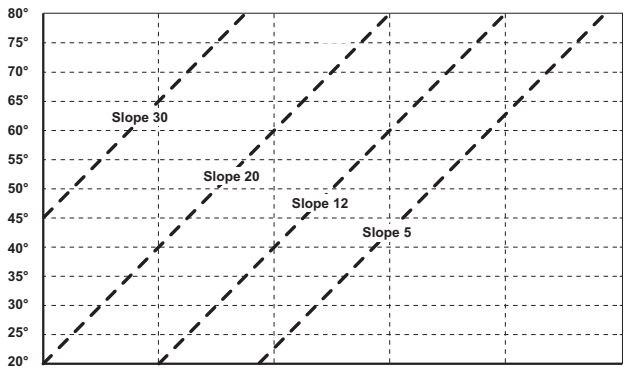
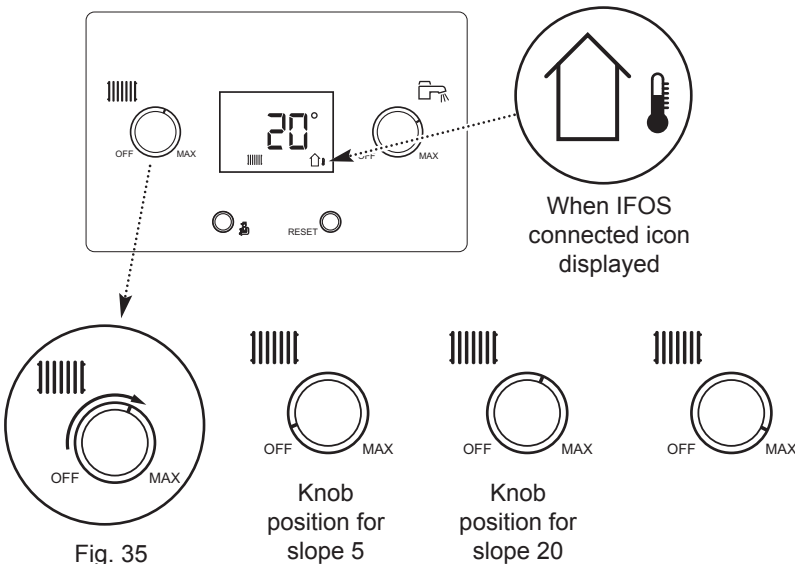

Fig. 34
Fig. 35
5. The Central Heating Control Knob should be turned clockwise until the value which corresponds with the desired slope (as shown on the graph - Fig. 34) is displayed (Fig. 35).
6. Normally the display will show the current temperature of the water in the boiler (e.g. 41°C). As the knob is turned the display will show the selected slope (Figs. 34 & 35).
For example, if Slope '12' is selected (Fig. 34), at an outside temperature of 0°C the boiler flow temperature will be 80°C. Consider the type of dwelling and discuss with the user their requirements to determine the most appropriate curve.